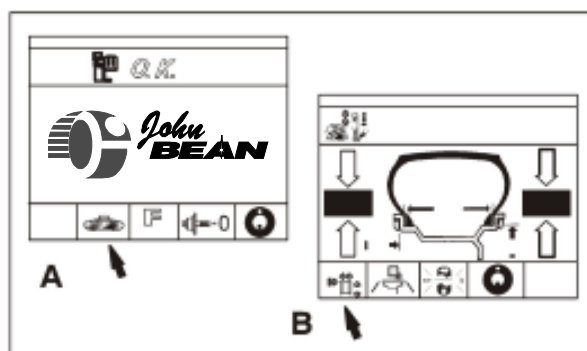

Fig. 57
- Starting from the main menu screen (**Fig. 57, Item A**) press the key (arrow).
- Starting from the balancing screen (**Fig. 57, Item B**) press the key (arrow).